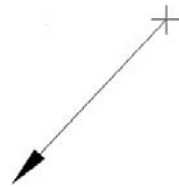

FIGURE 6.15
- Step 3.** Move your mouse at a 45° angle away from the first point and click again at a reasonable distance away. You created the *leader line and arrowhead* seen in Figure 6.15.